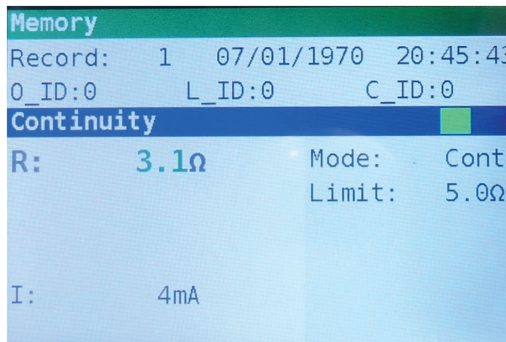

Figure 7.4: Saved results
Step 4 To store the result of last measurement, press **TEST** key. The following will be displayed (Figure 7.4).